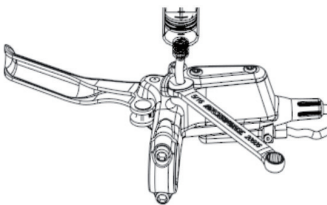

Figure 5-3: 8mm open end spanner to loosen/tighten the main body of the caliper into the nozzle screws.
- ④ Use the 8mm open-end wrench to tighten the oil inlet nozzle of the master cylinder (turn clockwise about 1.5 turns, as shown in Figure 5-3).
⑤ Official oil replenishment: First, repeatedly press down and release the brake lever until no air bubbles are discharged from the syringe hose. If the effect is not obvious, manually press the syringe to allow brake fluid to enter the disc brake, then extract the syringe to release any air bubbles. Repeat this process three to five times, then continue pressing and releasing the brake lever until no air bubbles are expelled from the syringe hose, completing the oil replenishment. Afterward, remove the syringe and tighten the oil inlet screw of the master cylinder.